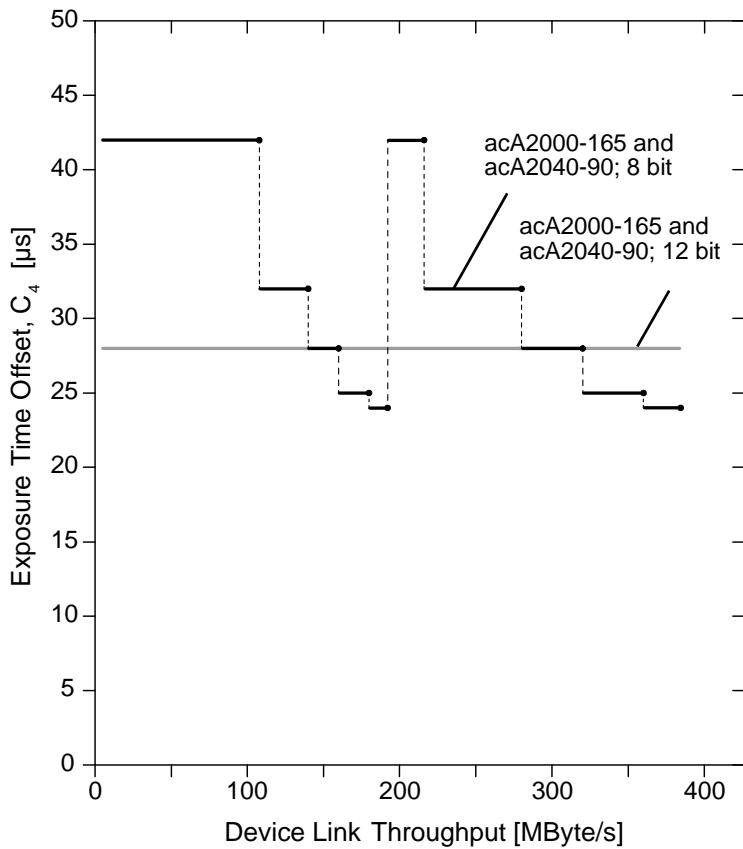

Fig. 58: Exposure Time Offsets Depending on Device Link Throughput (acA200-165u and acA2040-90u Cameras Only; All 8 bit- and 12 bit-Pixel Formats)
For exposure time offsets, C_4 , and their dependencies, see Table 32 and Figure 58.
1. Subtract the value for C_4 (see Table 32 and Figure 58) that applies to your camera model, from the wanted exposure time.